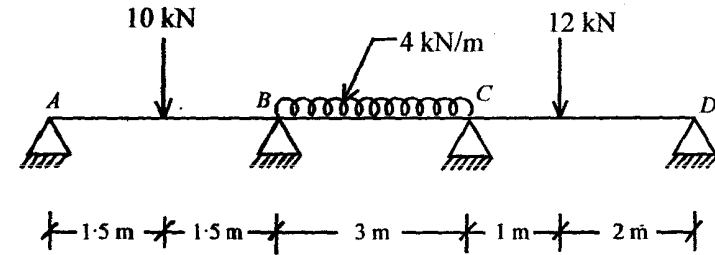

Fig. 6
4. A horizontal beam ABCD is loaded as shown in Fig. 6. The beam ABCD is supported on hinged supports and the beam is continuous over three equal spans each of 3 m. All the supports are initially at the same level. Plot the bending moment diagram of the beam, if support A settles by 15 mm, support B settles by 40 mm and support C settles by 30 mm. Given : $E = 2 \times 10^5 \text{ N/mm}^2$, $I = 2.4 \times 10^6 \text{ mm}^4$.